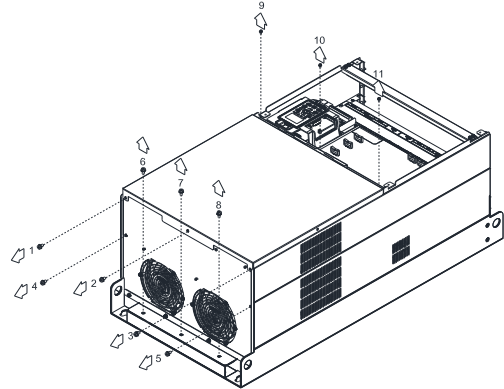

Figure 2
2. For 1~8 shown in the figure 2: Loosen the screws. Screw torque: 35~40 kg-cm / [30.4~34.7 lb-in.] / [3.4~3.9 Nm]
3. For 9~11 shown in the figure 2: Loosen the screws and removes the cover. Screw M4 torque: 14~16 kg-cm / [12.2~13.9 lb-in.] / [1.4~1.6 Nm]